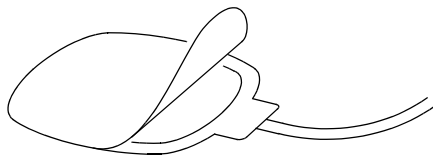

Figure 5-2 Peeling the Liner from the Electrode
- 2 Slowly peel back the protective liner on the electrodes, beginning with the cable connection end (see Figure 5-2).